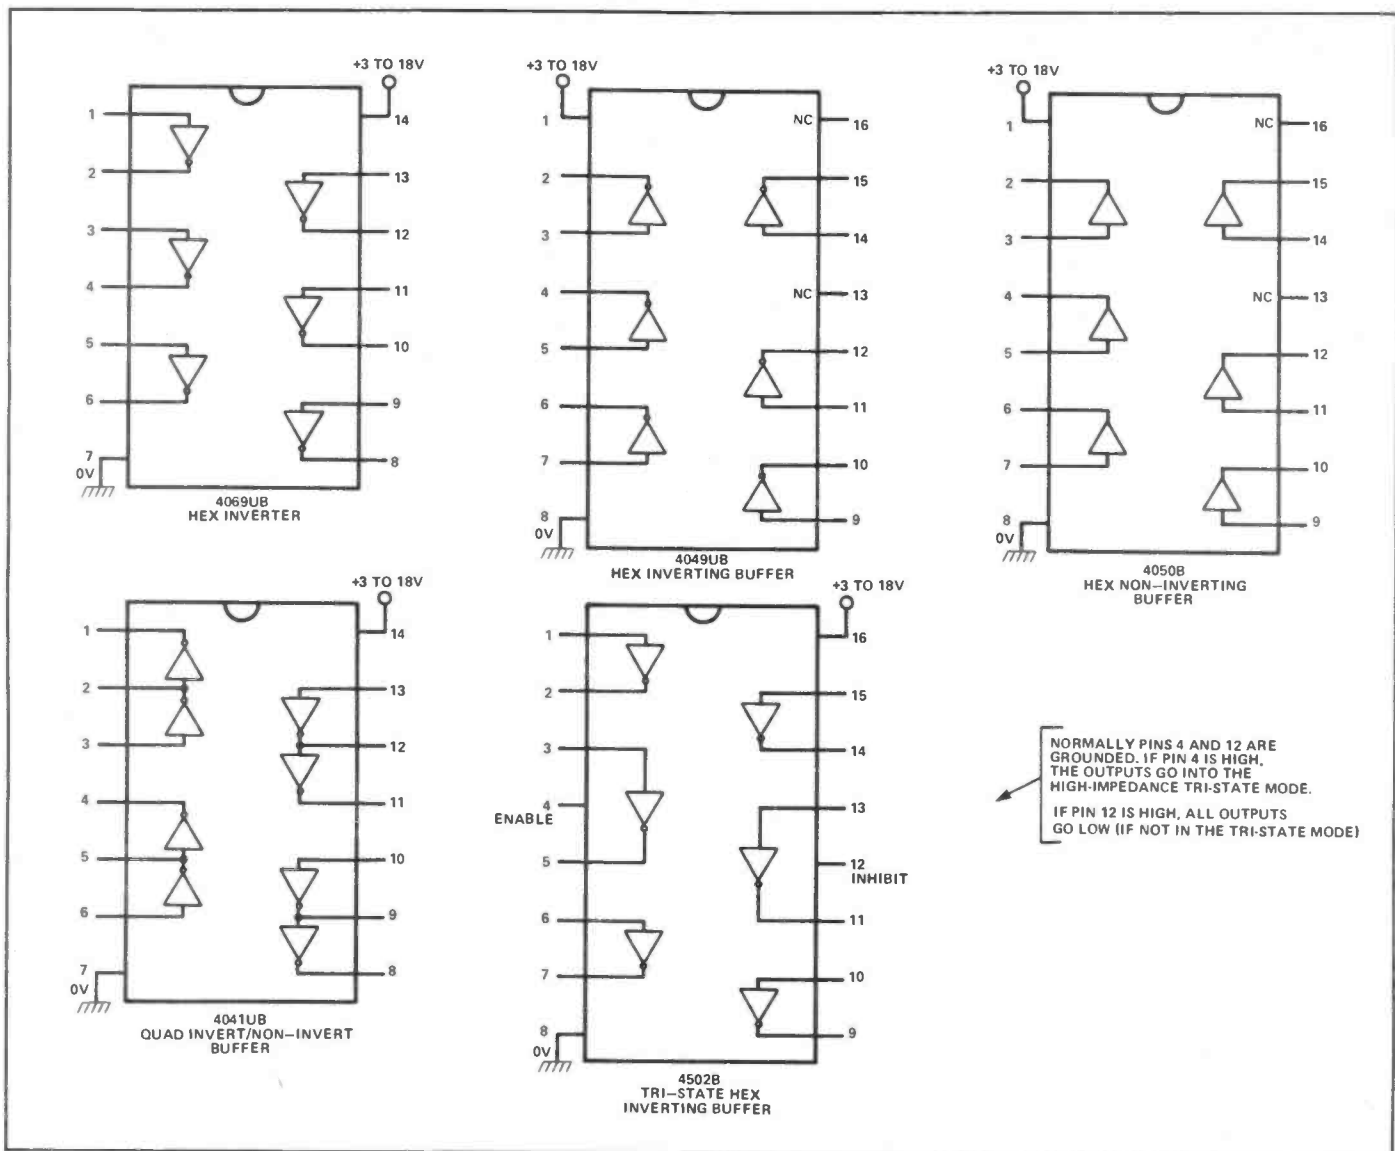

Figure 3: Five popular CMOS inverter and buffer ICs.
Inverters and buffers are available in dedicated CMOS IC form, and *Fig. 3* gives details of five popular examples. The 4041, 4049 and 4069 types use the unbuffered (UB) low-gain form of CMOS construction, and the 4050 and 4502 use the high-gain buffered form of construction.